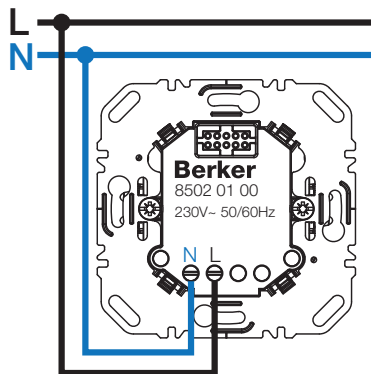

Figure 2: Power supply circuiting diagram
- Circuit power supply according to circuiting diagram (Figure 2).